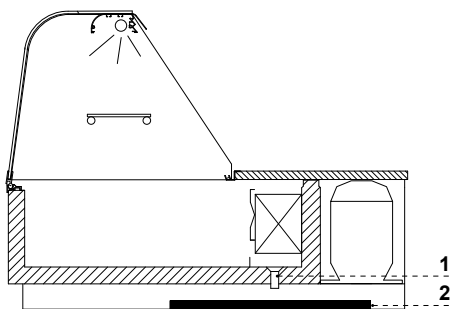

Fig.10 Condensate tray (Concerns "N" and "N2" models)
9. (Does not concern the "Z" versions) Place a condensate container or tray under water outlet hose Fig.9 (p.16) or Fig.10 (p.17)